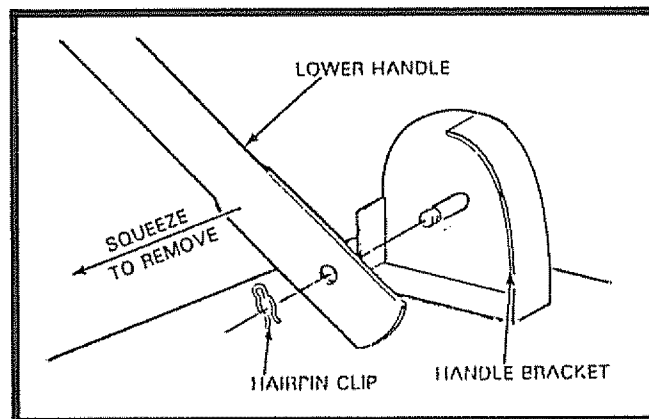

FIG. 9
- Remove the upper handle section and all of the parts that are attached to the lower handle section. Remove all of the parts that hold the lower handle to the handle brackets (See Fig. 9).
- Turn the lower handle over and re-assemble all of the parts that were taken off. Re-assemble the upper handle section to the lower handle (See Fig. 9).